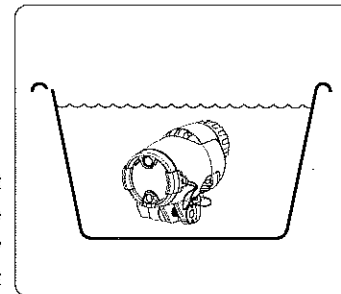

Figure 13
2. After using the strobe in salt water, make sure it's watertight, then soak it sufficiently in fresh water as shown in Figure 13. After soaking, rinse it in running fresh water.